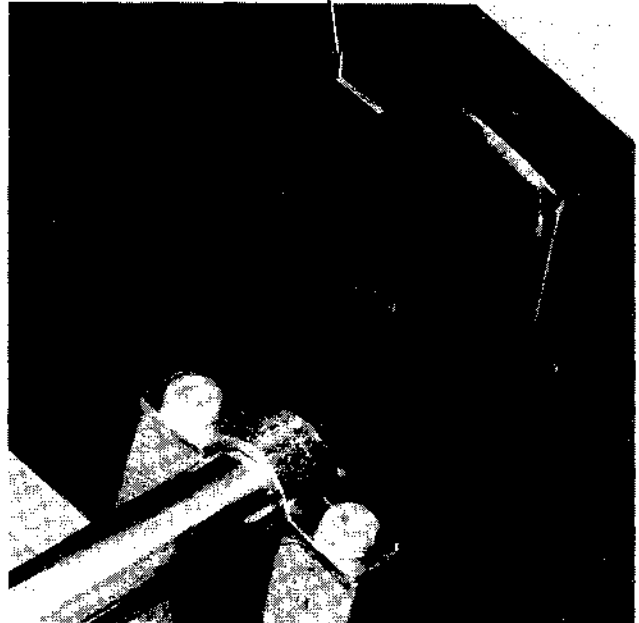
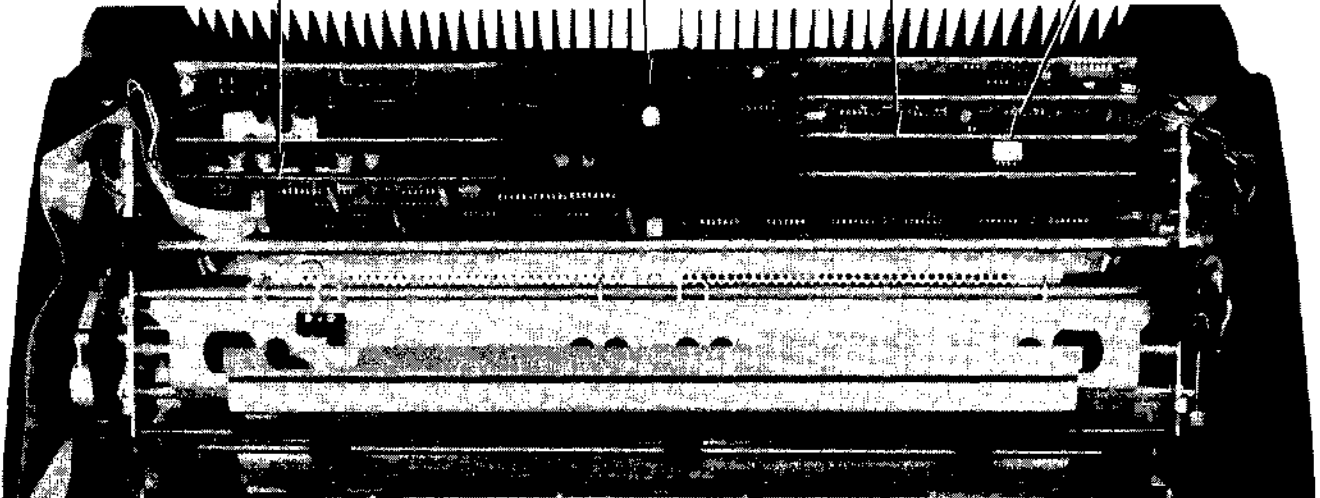
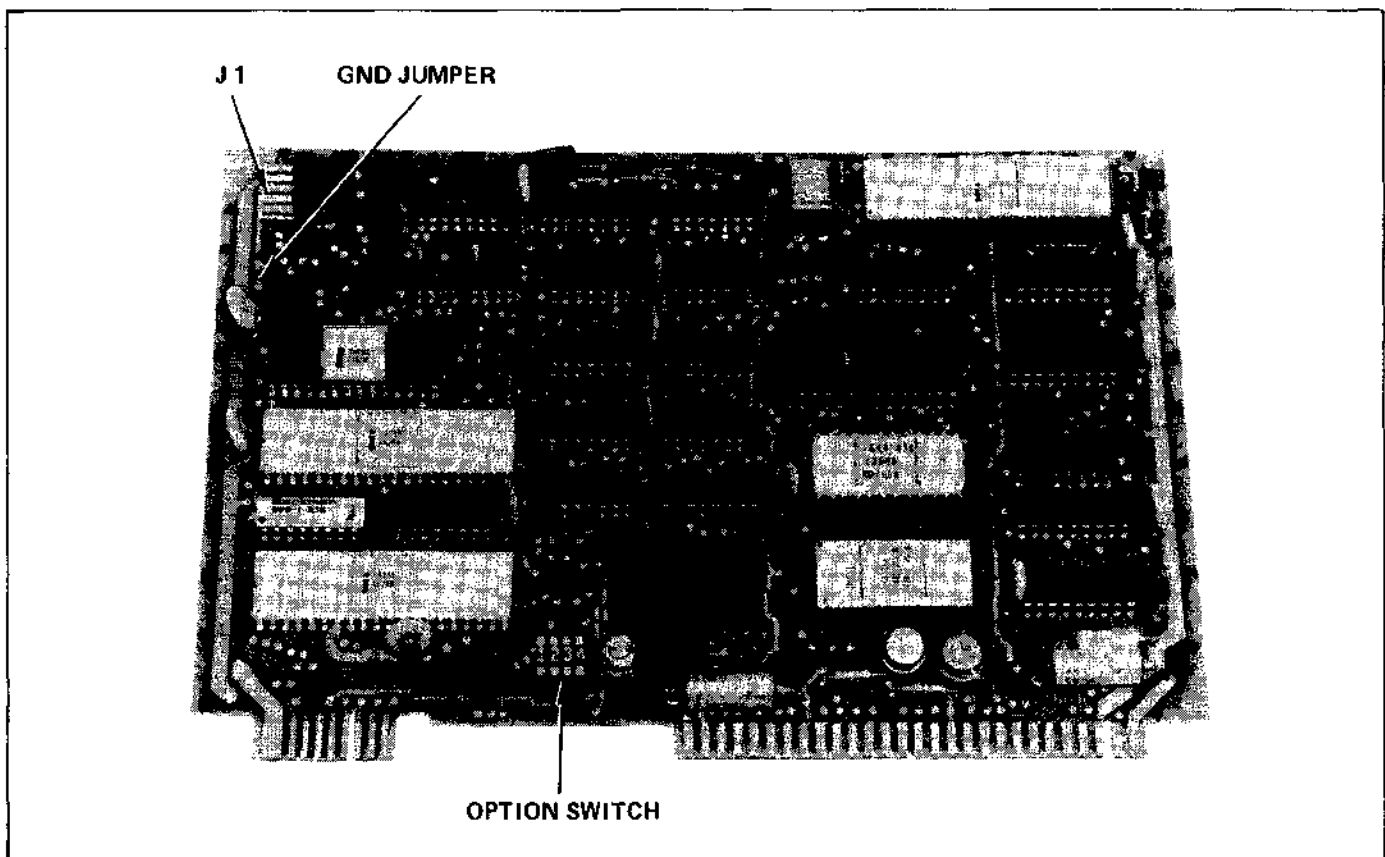

Figure 5-1. Top Cover Release Levers
Figure 5-2. Circuit Board Location (Top Cover Removed)
Figure 5-3. HPRO3 Component Location
- (1) Remove forms tractor (optional), access cover, platen skirts, and platen.
- (2) Remove the printer top cover by releasing the cover release levers inside the cover at both sides, just in front of platen (see Figure 5-1), and lifting the cover off.
- (3) Inspect the keyboard, printer, and card cage for loose connections, loose parts, missing hardware, etc. and for any evidence of electrical shorting. Also remove any loose packing material.
- (4) Check and/or reset the DIP switch on the printer processor board (see Figure 5-2) so that all four (4) switches are off (in the down position). Also, the HPRO3 Option switch and ground jumper modifications may be done, if necessary (see 5.6).
- (5) Check that circuit boards are properly seated in their connector by pushing down on them firmly but gently.
- (6) Replace the top cover, platen, platen skirts, access cover, and forms tractor (optional).
- (2) Remove the forms tractor if one is installed (see 2.4.3).
- (3) Remove the access cover, the plastic platen skirts (see 2.4.2) and the platen.
- (4) Remove the printer top cover. Release the two latches inside the cover at both sides, just in front of the platen (see Figure 5-1), and lift the cover off. Set the cover safely inside.
- (5) Loosen the screw in the circuit board clamp (Figure 5-2) and remove the clamp.
- (6) Locate the HPRO3 board (see Figure 5-2) and unplug the 12-pin connector at J1 shown in Figure 5-3. Lift the board straight up just enough to facilitate the intended operation. Do NOT attempt to completely remove the HPRO3 board from the card cage without first disconnecting all the appropriate connectors.
- (7) When the switch/jumper actions have been selected, replace the HPRO3 board, the covers, and the platen by reversing the above procedure.
is shown in Figure 5-3. The switch settings and their functions are given in Table 5-1. Also see Section 3 for more information on these options.
Some modems require the Signal Ground (pin 7) and the Protective Ground (pin 1) lines in the EIA interface cable to be separate rather than common grounds. This separation is easily accomplished by cutting or unsoldering the Ground jumper (B4) on the HPRO3 board (see Figure 5-3). Removal of this jumper leaves the Protective Ground (pin 1) of the interface cable "floating."